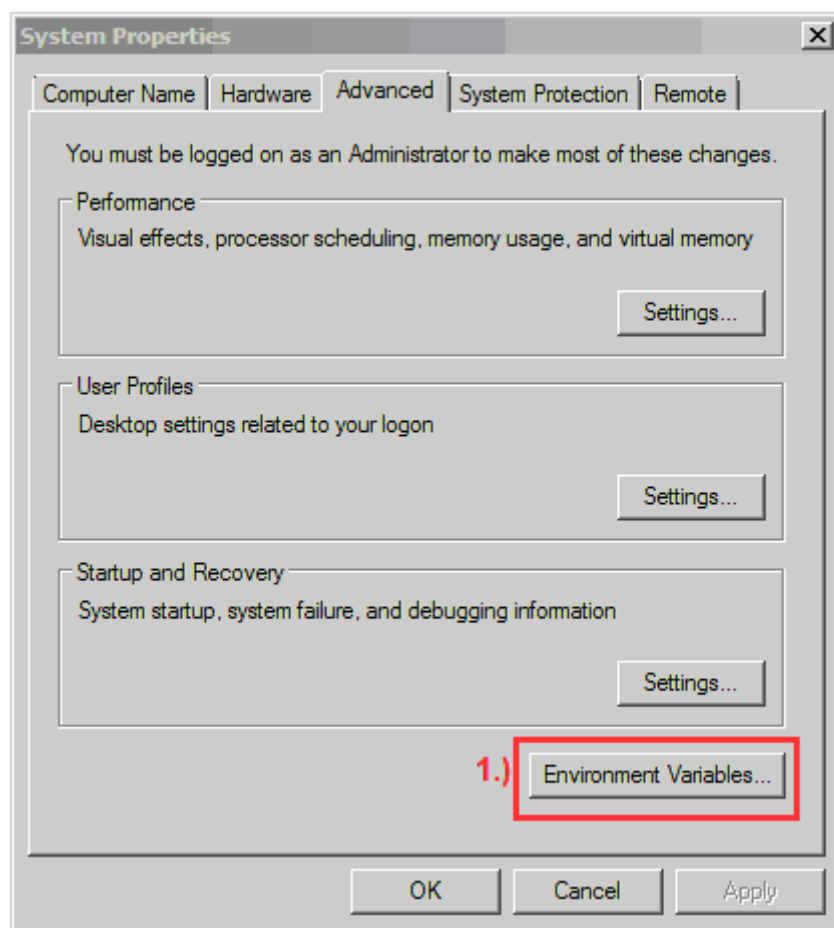

Figure 8. System Properties Window
1. Open the System-Properties window (right-click on My Computer Icon and click Properties). This brings up the properties window. Select the Advanced tab and click on Environment variables as shown in Figure 8.